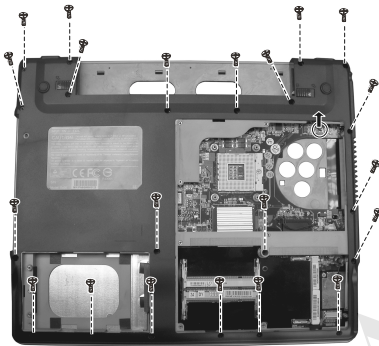

Figure 2-27 Free the housing
4. Disconnect the left speaker's cable, then remove the twenty-one screws and free the housing. (Figure 2-27)